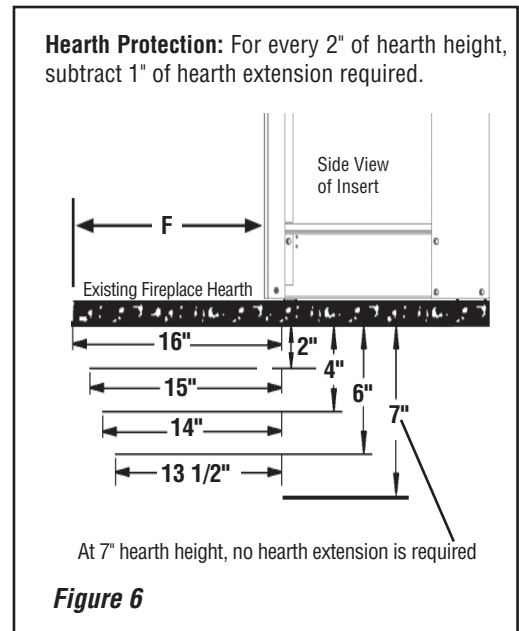

Figure 6
- ** If hearth is elevated, subtract 1 inch of hearth extension required for every 2 inches of height (see Figure 6).